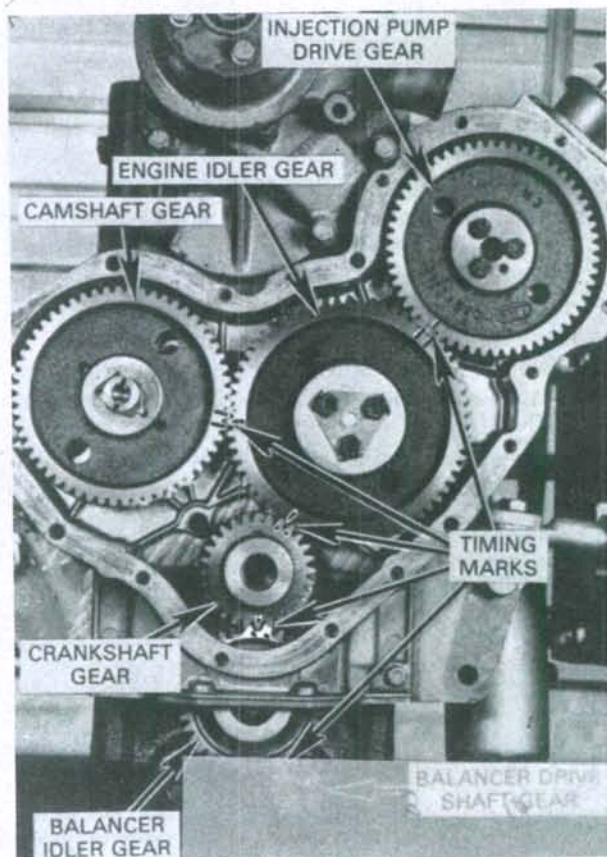
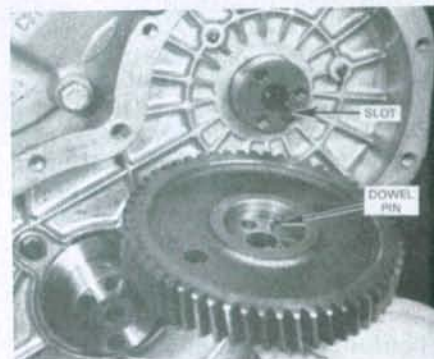

Fig. 95—View of timing gears installed and marks aligned for A4.236 and A4.248 diesel engines.
Fig. 96—Correct installation of injection pump drive gear is simplified by the dowel pin which fits in machined slot in pump drive shaft.
**83.** Fig. 95 shows a view of timing gear train with cover removed. Before attempting to remove any of the timing gears, first remove fuel tank, rocker arm cover and rocker arms to avoid the possibility of damage to pistons or valve train if camshaft or crankshaft should either one be turned independently of the other.
**84. IDLER GEAR AND HUB.** The timing idler gear (Fig. 95) should have a diametral clearance of 0.059-0.119 mm (0.0023-0.0047 inch) and end play of 0.10-0.20 mm (0.004-0.008 inch) on idler gear hub. The hub is a light press fit in timing gear housing, and can be loosened with a soft hammer if renewal is necessary. Due to uneven spacing of hub studs, hub can only be installed in one position.
**85. CAMSHAFT GEAR.** The camshaft gear (Fig. 95) is pressed and keyed to shaft and retained by a special cap screw, tab washer and retaining plate. Use a suitable puller to remove the gear.
**86. INJECTION PUMP DRIVE GEAR.** The injection pump drive gear (Fig. 95) is retained to pump adapter by three cap screws. When installing the gear, align dowel pin with slot (Fig. 96) in adapter hub, then install the retaining cap screws. The injection pump drive gear and adapter are supported by the injection pump rotor bearings.
**87. CRANKSHAFT GEAR.** The crankshaft timing gear (Fig. 95) is keyed to the shaft and is a transition fit, 0.025 mm (0.001 inch) tight to 0.025 mm (0.001 inch) loose on shaft. It is usually possible to remove the gear using two small pry bars to move the gear forward. Remove timing gear housing and engine balancer, then use a suitable puller if gear cannot be removed with pry bars.
**88. TIMING THE GEARS.** To install and time the gears, first install crankshaft, camshaft and injection pump gears as outlined in paragraphs 85, 86 and 87 with timing marks to front. Turn the shafts until timing marks (Fig. 95) point toward idler gear hub, then install idler gear with all marks aligned as shown. Secure idler gear as in paragraph 84.